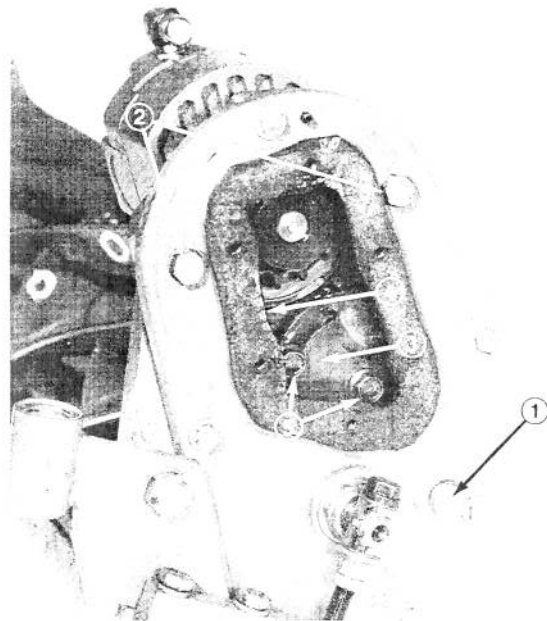

Figure 58
1. Lower cutting units, disassemble top shield fasteners opposite motor end, remove inspection cover from chain case, loosen chain idler, push reel motor mounting capscrews back but do not remove or "O" rings will be displaced. Remove shield, lift chain off motor sprocket and remove motor (Fig. 58).
2. Check chain tension (Fig. 58). Chain should have 0 to 1/8 in. (0 to 3 mm) deflection when properly adjusted and should be retensioned when deflection exceeds 1/4 in. (6 mm). Rotate reel while checking to ensure all portions are within specification. If tension is correct, proceed to step 6. If tension is incorrect, proceed to step 3.
3. Loosen idler mounting capscrews (Fig. 58). Rotate the reel by hand, watching for the sprocket position where the chain tension is tightest. At this point make a final idler adjustment, fingertight, for chain deflection.